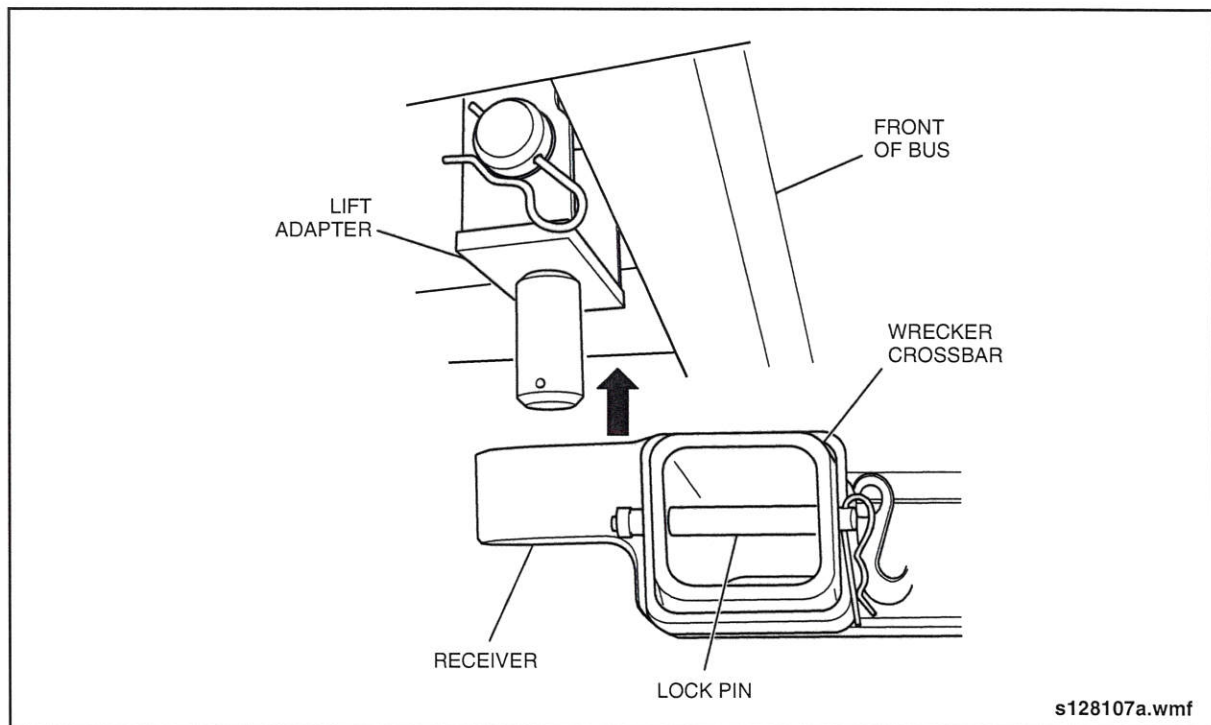

Fig. GI-25: Securing the Lift Receivers to the Lift Adapters
1. Position the wrecker's lifting boom with the lift receivers in place under the pegs of the lift adapters. See "Fig. GI-25: Securing the Lift Receivers to the Lift Adapters" on page 46.